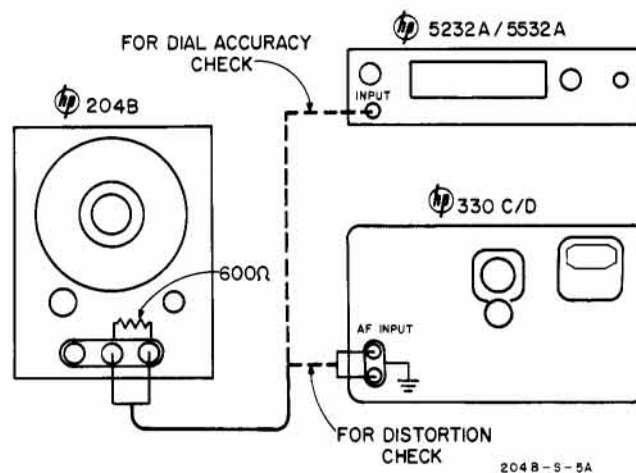

Figure 5-1. Test Setup for Dial Accuracy or Distortion Checks
a. Connect frequency counter and 600-ohm load to oscillator output as shown in figure 5-1.
a. Connect distortion analyzer and 600-ohm load to oscillator output as shown in figure 5-1.